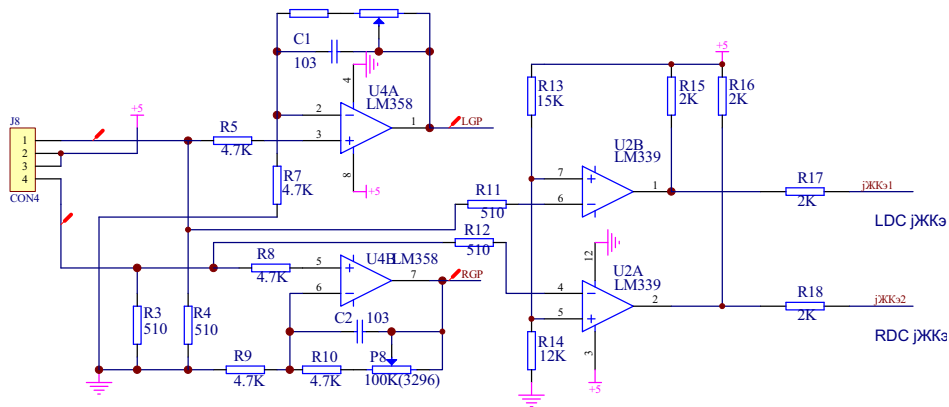

Fig.13B Left and Right Counting Sensor Circuit Diagram
(2) NEW PRO85, PRO85U (Refer to Fig.13B)